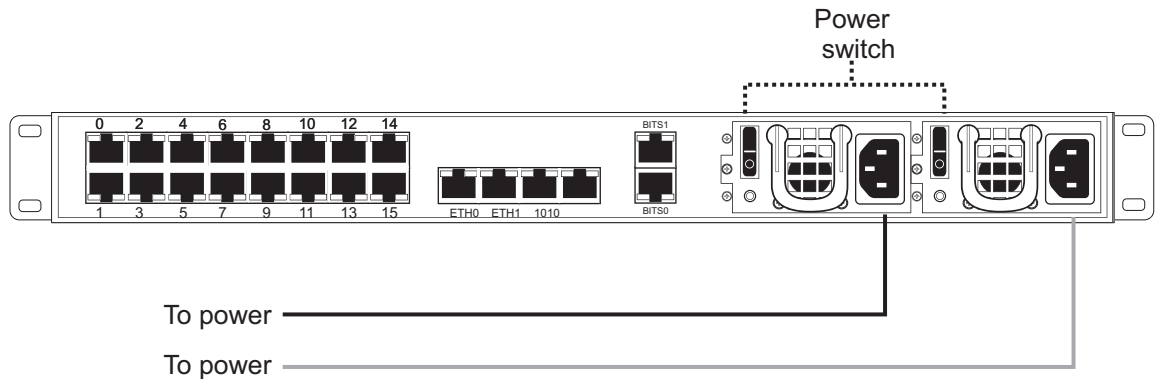

Figure 5.2 7800-TMS AC Power Connections
1. Connect the first power connector of each unit to the first power source. See Figure 5.2.